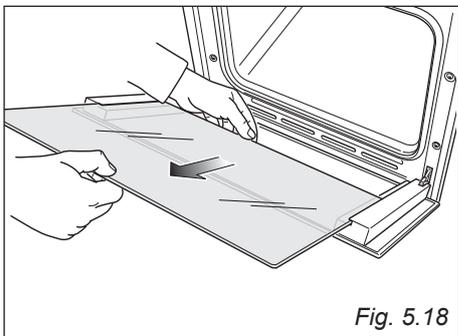

Fig. 5.18
- Gently pull out the inner pane of glass (fig. 5.18).